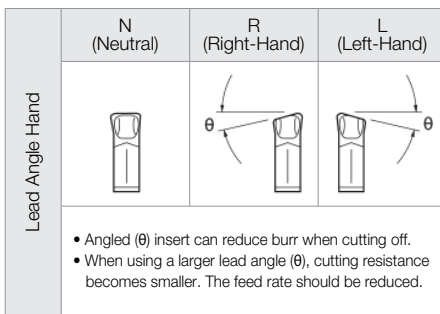

Fig.1
- 1) Use a neutral angle insert, when remaining boss is negligible. (See Fig.1)